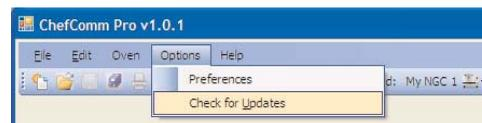

Figure 45: Check for Updates
2. From the main ChefComm window, select **Options > Check for Updates** (Figure 45). Any available updates will be automatically installed.